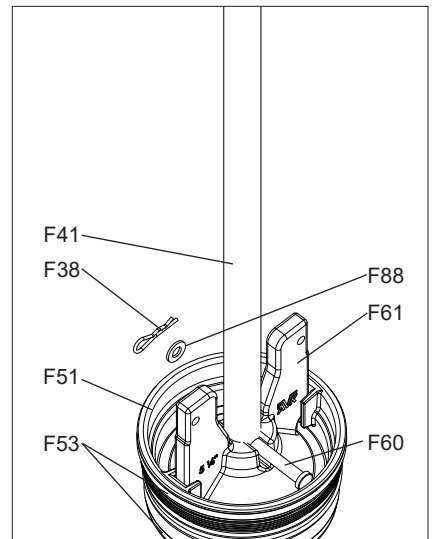

Fig. 7J
10. If any of the above parts are to be replaced, clamp the Lower Stem Rod (F41) in a standard pipe vise. (See Fig. 7J)